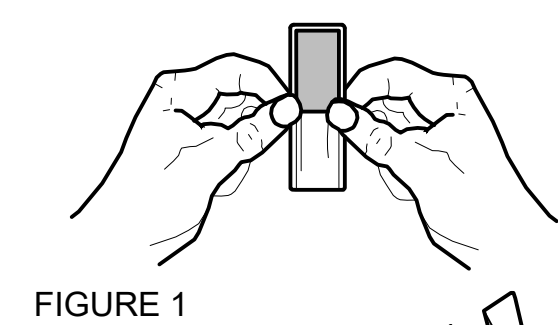

FIGURE 1
- 3 GRIP BOTH EDGES OF BAG AT THE CENTER BARRIER (FIGURE 1) AND WRINKLE AND FLEX THE BAG ACROSS THE BARRIER. THIS WILL WEAKEN THE BARRIER.